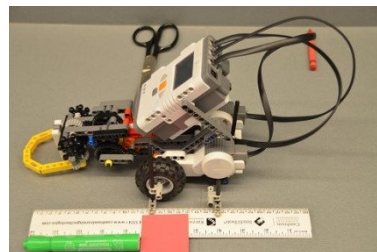

Figure 8
- Provide opportunities for the student to use the Robot and the centimeter ruler to measure the same objects they measured with their tagboard ruler. See Figures 8, 9.